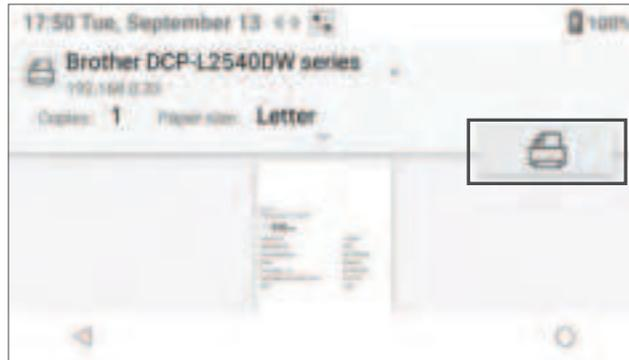

Figure 84: Print the Test Result
- 7 Select the desired printer and then select  (Print) (*Figure 84*) to print the test result.